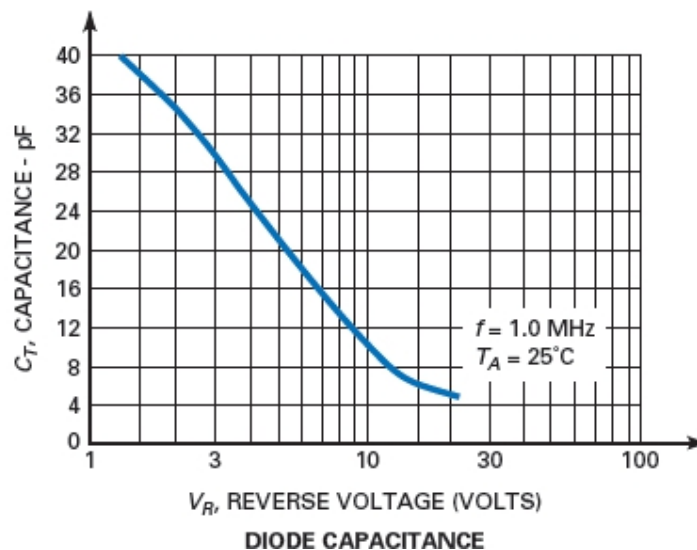

Figure-20 MV209 Partial Data Sheet. (Used with permission from SCILLC dba ON Semiconductor.)
- Figure-20 shows a partial data sheet for an MV209 Varactor diode. It lists a reference capacitance